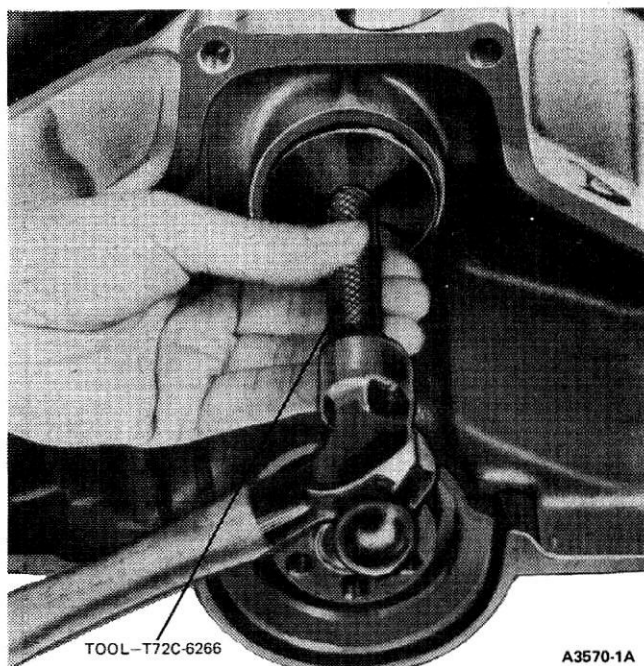

FIG. 33 Installing Camshaft Rear Bearing Core Plug
1. Install a new plug with the tool shown in Fig. 33 using the procedure given in Part 21-01.